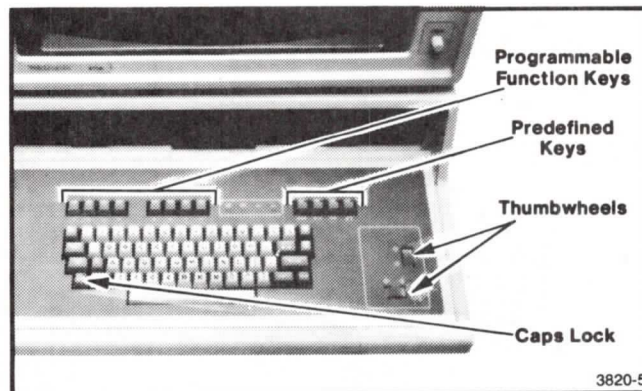

**Figure 3-1. Front View Showing Operator Controls.**
(Refer to Figure 3-1.)
To turn on the 4114, press the power switch (Figure 3-1) until it clicks. When you release it, you will notice a green indicator in the center of the switch.
1. If the terminal is on, skip to step two. If the terminal is off press the POWER switch, (Figure 3-1).	When you release the POWER button the green indicator appears in it. You can hear the ventilation fans in the terminal.  If some of the indicator lights remain on and the terminal bell rings, it has failed the power up sequence. See the 4114 Operator's Manual for details.